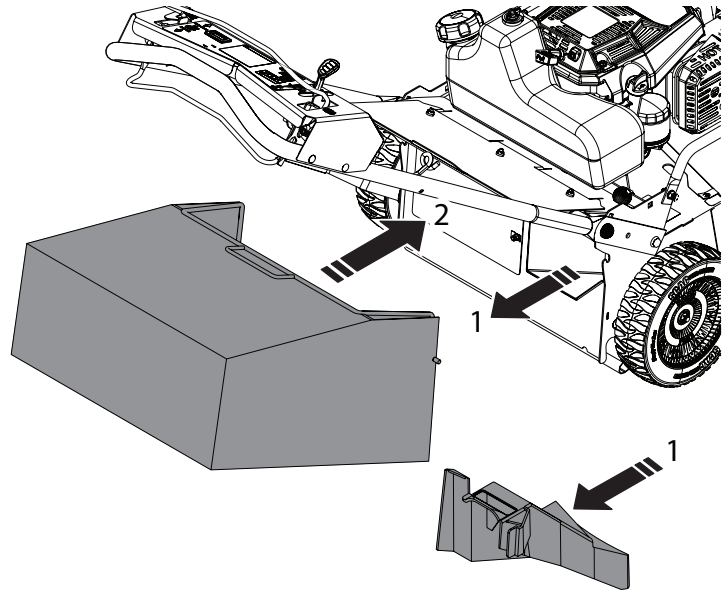

Figure 6-14. Bagging Grass
1. Lift the rear cover and remove the rear discharge plug from the cutter deck. See Figure 6-14.
2. Reinstall the grass collection bag onto the mower. See Figure 6-14.